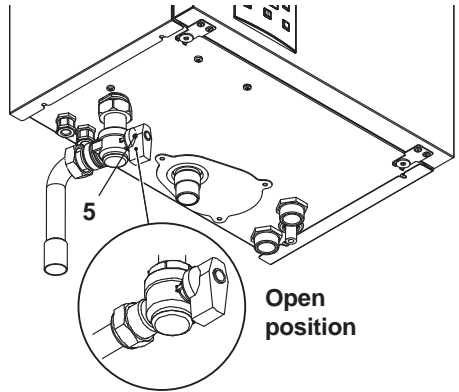

Fig. 7.1
- Open the gas cock 5(Fig. 7.1) on the appliance and check the gas connector on